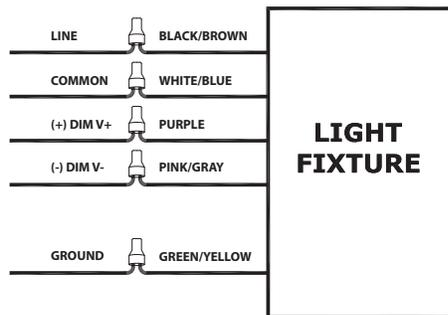

Fig: 5
2. Make appropriate wire connections per NEC in an approved enclosure (*not included*) see **Fig. 5**.
Universal voltage driver permits operation at 120V thru 277V, 50 or 60 Hz. For 0-10 Dimming, follow the wiring directions as shown in Fig. 5.